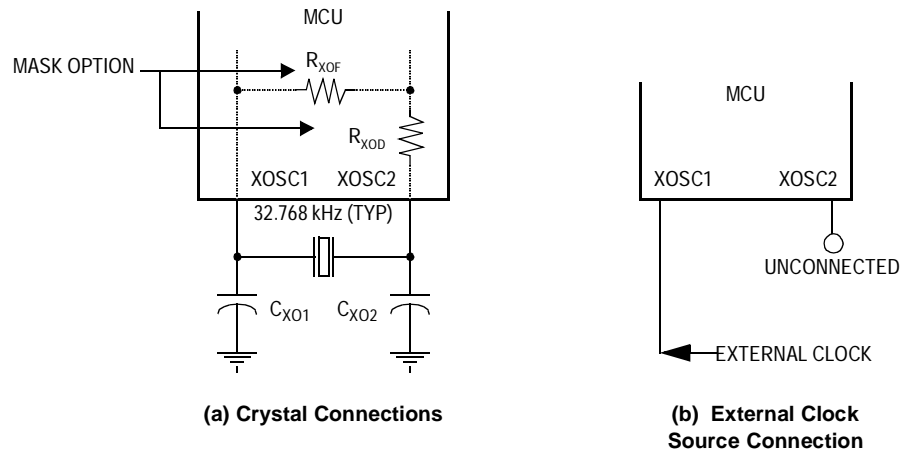

Figure 1-5. Oscillator Connections
1. A crystal as shown in Figure 1-5\(a\)
2. An external clock signal as shown in Figure 1-5\(b\)
The circuit in Figure 1-5\(a\) shows a typical 2-pin oscillator circuit for a 32.768-kHz “watch” crystal. The crystal manufacturer’s recommendations should be followed, since the crystal parameters determine the external component values required to provide maximum stability and reliable startup. The load capacitance values used in the oscillator circuit design should include all stray capacitances. The crystal and components should be mounted as close as possible to the pins for start-up stabilization and to minimize output distortion. An internal startup feedback resistor of R_{Xof} between XOSC1 and XOSC2 and a
As shown in **Figure 1-5(b)**, an external clock from another CMOS-compatible device can be connected to the XOSC1 input (with the XOSC2 output not connected). This configuration is possible regardless of the oscillator setup.